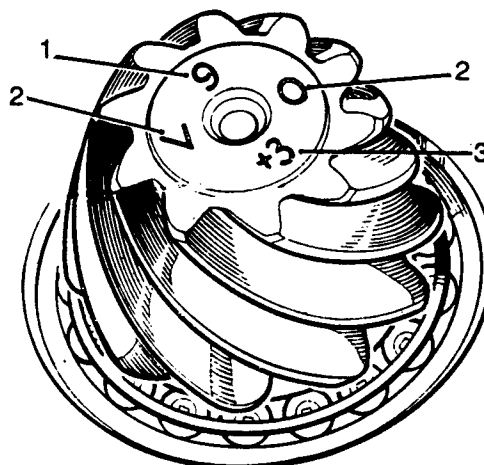
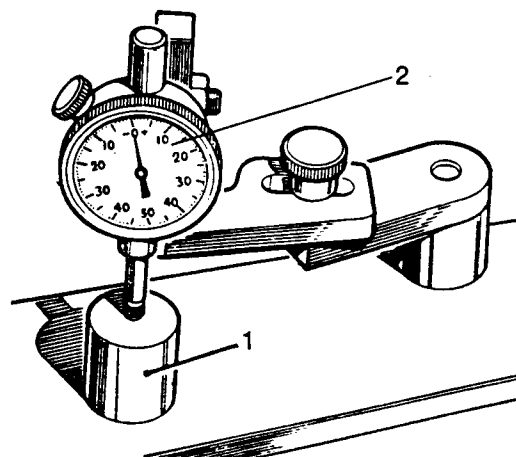

Fig J2.34
Fig J2.35
(1) Refer to Fig J2.34. Check that the serial number (1) marked on the pinion end face matches that marked on the crownwheel.
(2) The markings on the end face (2) adjacent to the serial number are of no significance during servicing.
(3) The figure marked on the end face (3) opposite to the serial number indicates, in thousandths of an inch, the deviation from nominal required to correctly set the pinion. A pinion marked plus (+) must be deeper than nominal, a minus (-) pinion must be set shallower than nominal.
(4) The nominal setting dimension is represented by the setting gauge block 18G191P (see (1) on Fig J2.35), which is referenced from the pinion end face to the bottom radius of the differential bearing bore.
(1) Refer to Fig J2.35. Ensure that the pinion end face is free of raised burrs around the etched markings.
(2) Remove the keep disc from the magnetised base of dial gauge tool 18G191.
- (3) Place the dial gauge (2) and setting gauge 18G191P (1) on a flat surface and zero the dial gauge stylus on to the setting gauge.